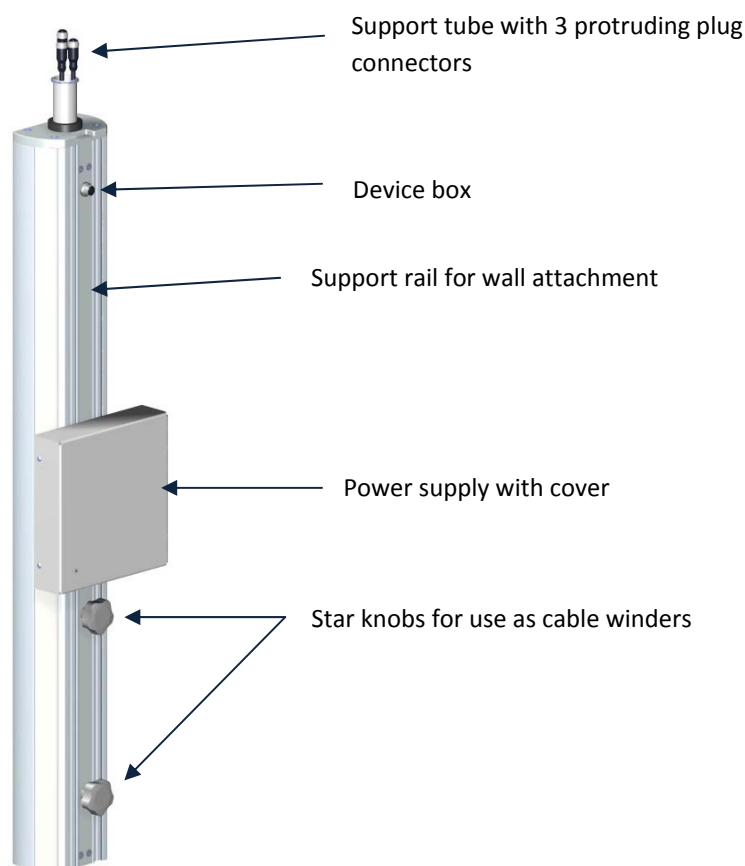

Figure 16: Support rail forming the wall bracket
a) Wall bracket - consisting of a support rail with the following components and the integrated cable conduits (figure 16):
The device box is located above the storage shelf on the support rail, which is a difference compared to the mobile model (figure 16).